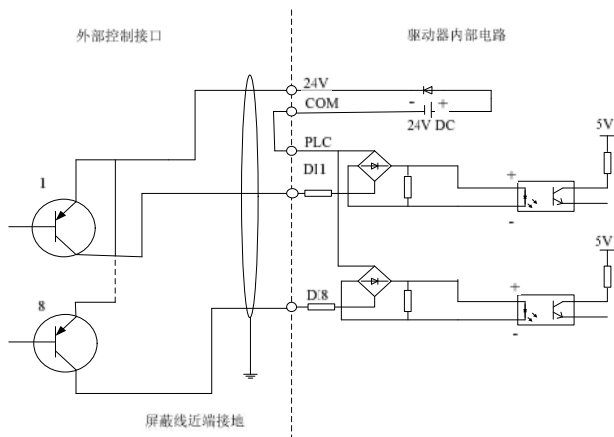

Fig. 2-4 Connection Mode Using a +24V Internal Power Supply of the Driver
2. Connection mode using a +24V internal power supply of the driver, and adopting a PNP type external controller (Note to remove the connecting wire between PLC and 24V terminal, to short-circuit PLC and COM terminal), as shown in Fig. 2-4.